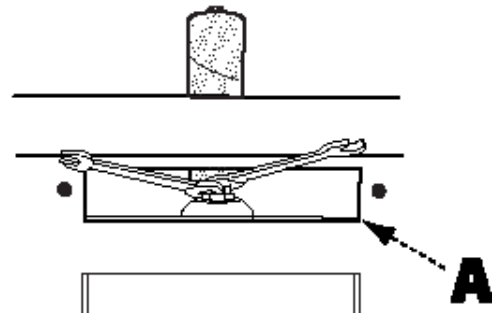

FIGURE 6
See Figure 6
2. Open the rear access panel (A).
3. Use the two open end spindle wrenches (supplied), one on the spindle and the other on the spindle seat as shown in Figure 6, to tighten.